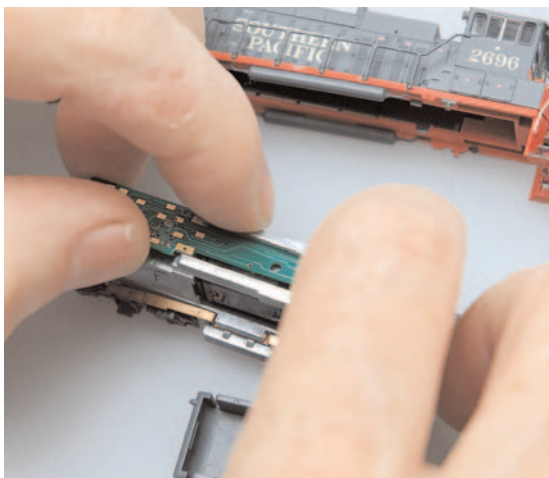

Figure 2. DCC Decoder installation
3. Installation of the DN163A3 decoder is the reverse of the removal sequence. With the frame halves still loosened, slide the DCC decoder into position as shown. (*Figure 2*)